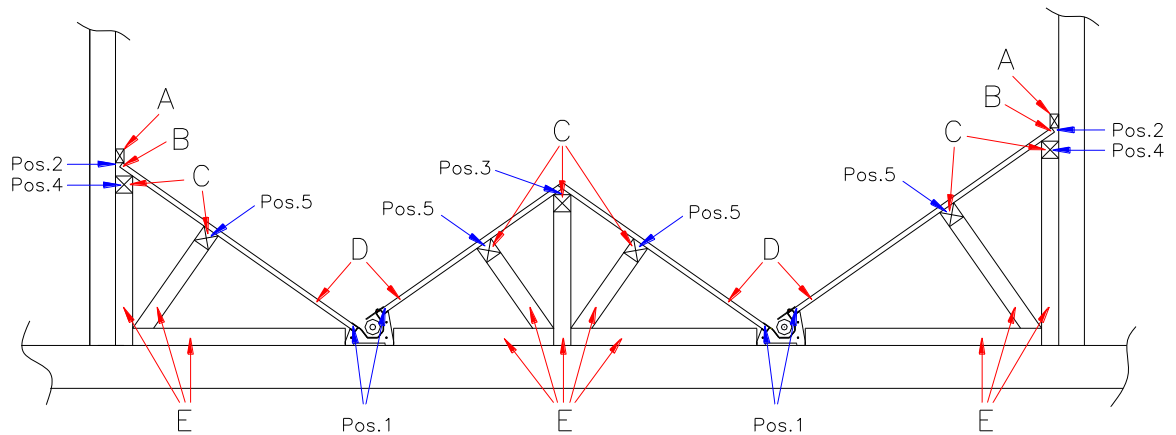

Fig. 3 → Viewed from auger drive unit facing towards storeroom
Please follow our recommendations as shown in Fig. 3 or else have a sufficiently strong structure installed by a specialist. 1m³ of pellets weighs approx. 0.65 tonnes!
1. Insert a length of batten or similar into the slot for the boarding (1, Fig. 3) in order to mark the line for the 35° slope. Mark off the resulting height for the substructure on the side walls (2, Fig. 3) of the storeroom. Measure the necessary height for the substructure between the outfeed augers (3, Fig. 3) by inserting a length of batten on the left and right respectively.
2. Screw the horizontal supporting timbers (4, Fig. 3) on the left and right to the storeroom wall approx. 3cm below the slope height previously marked.
3. Support the horizontal timbers (4, Fig. 3) with vertical battens spaced at no more than 1.5m apart. If the distance between the auger and the wall is greater than 1.5 m, additional supporting battens and substructure (5, Fig. 3) must be provided.
4. Cut the boards (D, Fig. 3) from the outfeed augers to the wall on the left and right about 3cm short and fit them so that there is a small gap (2, Fig. 3) between the boards and the wall. Fit the boards between the augers as shown in our suggested structure in Fig. 3.
5. Do not screw every board in place and instead screw a horizontal batten (A, Fig. 3) to the wall across all the boards.